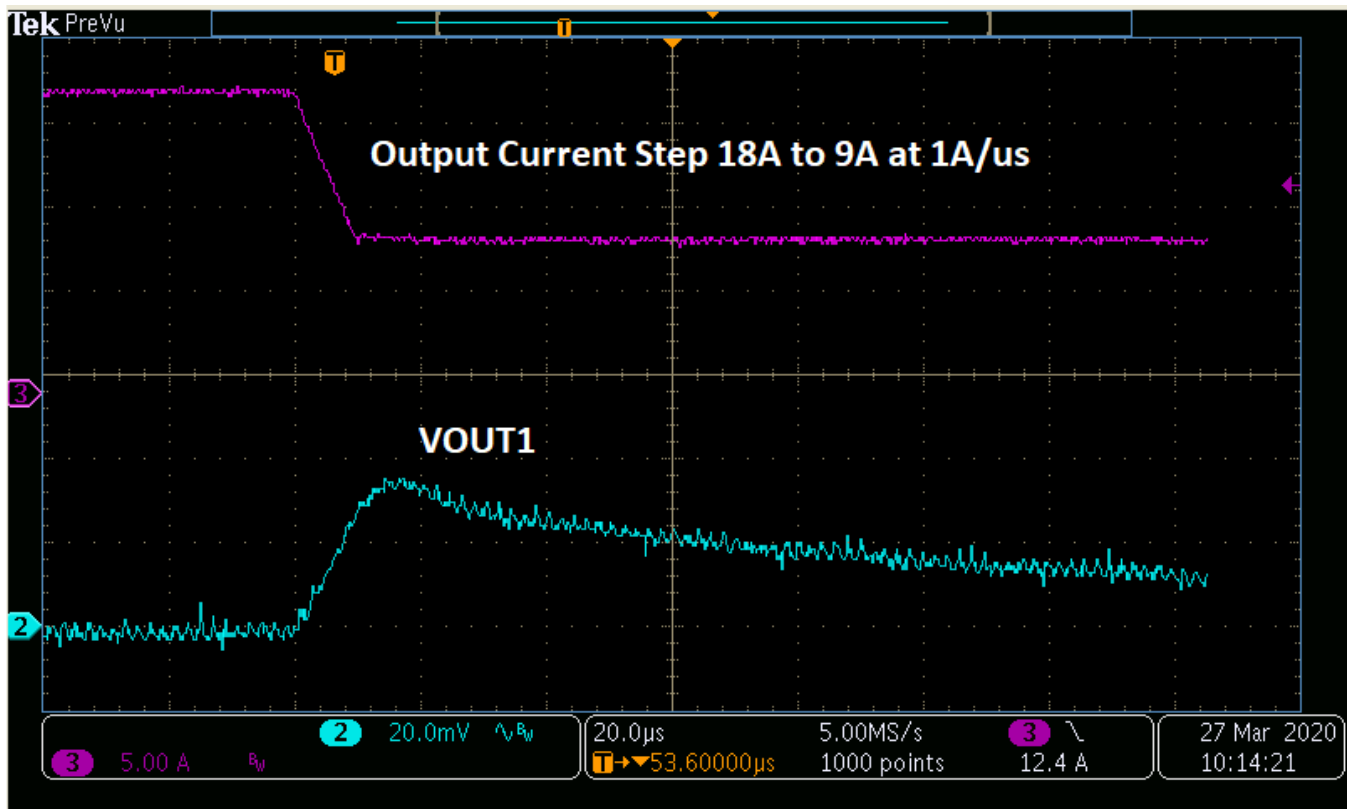

Figure 7. Transient Response to Load Step 18 A to 8 A at 1 A/ μ s
- Change the trigger on CH3 to falling edge to capture the transient response of VOUT to negative current step from 18 A to 9 A as shown in Figure 7.